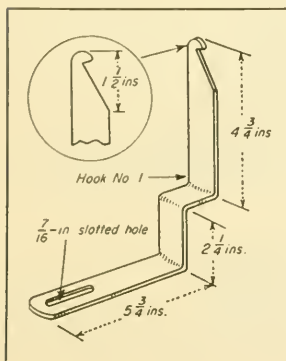

Fig. 1
1. Use cold-rolled flat-steel stock  $12\frac{1}{2}$  ins. long,  $\frac{7}{8}$  in. wide, and  $\frac{1}{2}$  in. thick to form a hook. (Drop-wire separator bars will do.) Bend the bar as shown in Fig. 1. Cut a hook to hold the filling end in one end of the material. Cut a  $\frac{7}{8}$ -in. slot in the other end and smooth the surfaces with fine emery cloth.